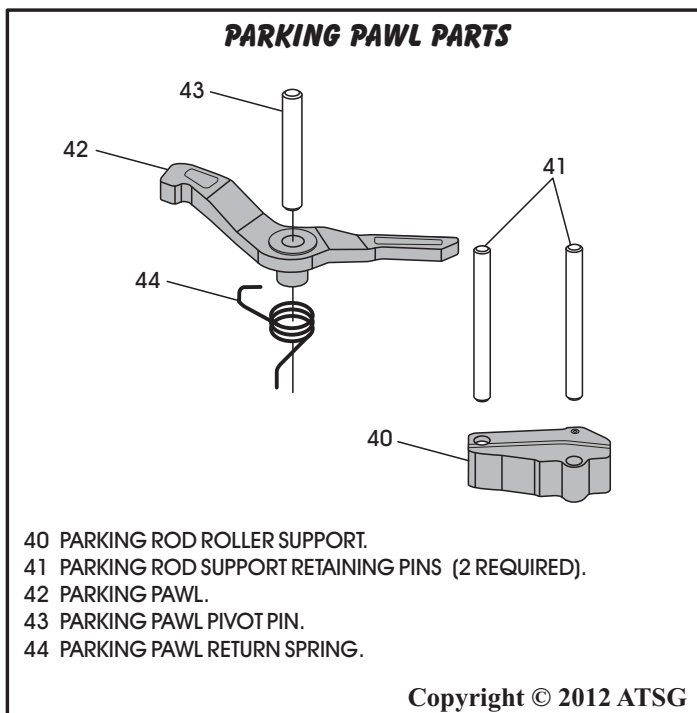

Figure 281
84. Assemble the parking pawl return spring to the parking pawl, as shown in Figure 281 and 282.